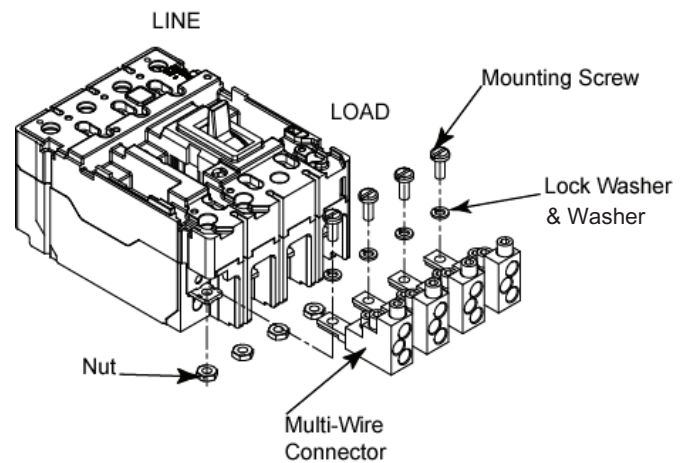

Fig. 1-1 Multi-Wire Connector Kit Installation Layout
1. INSTALLATION OF MULTI-WIRE TERMINAL CONNECTOR KIT (Fig. 1-1)